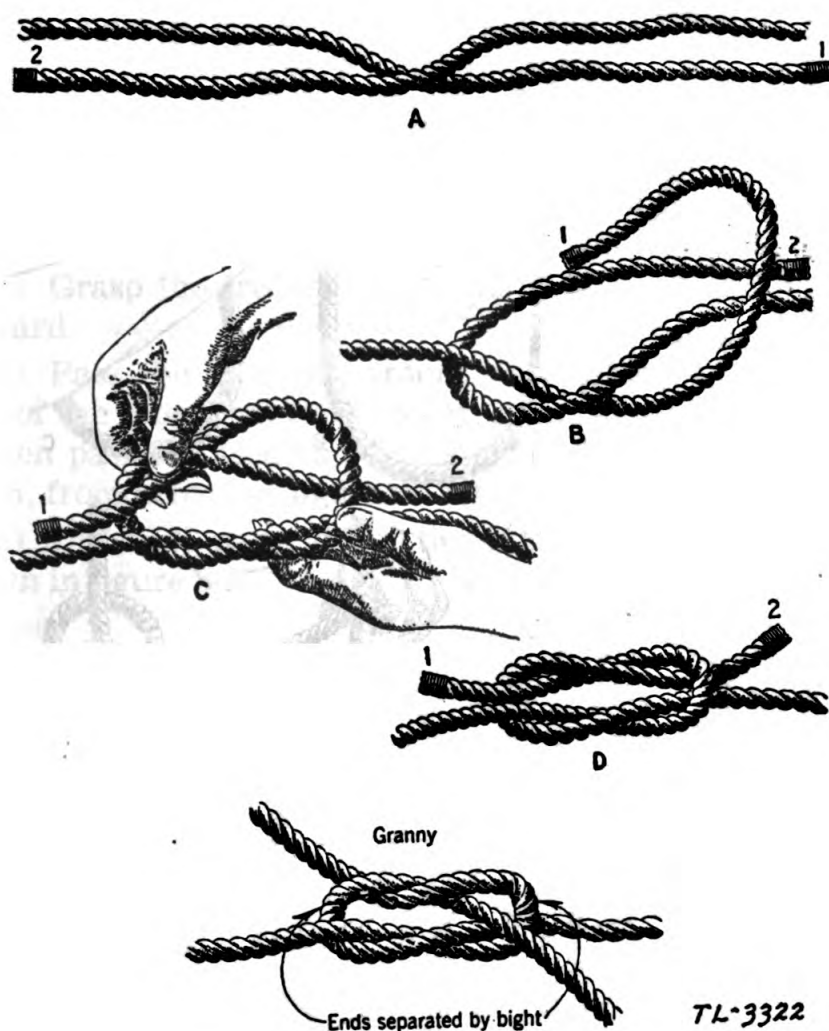

Figure 7
c. *Square knot.*—This knot is used in uniting the ends of the same size ropes, that may be placed under strain. A square knot, joining two ropes of unequal size is very apt to slip. Figure 7 illustrates a square knot.
(1) Cross the ends of the rope, placing the right under the left as in figure 7-A.
(2) Bend each rope back on itself as shown in 7-B.
(3) Wrap end marked 1, around the end marked 2, away from you as shown in 7-C.
(4) Pull all parts down tight. The completed knot is shown in 7-D.
A *granny knot* is shown in figure 7, so that it may be readily identified and avoided.